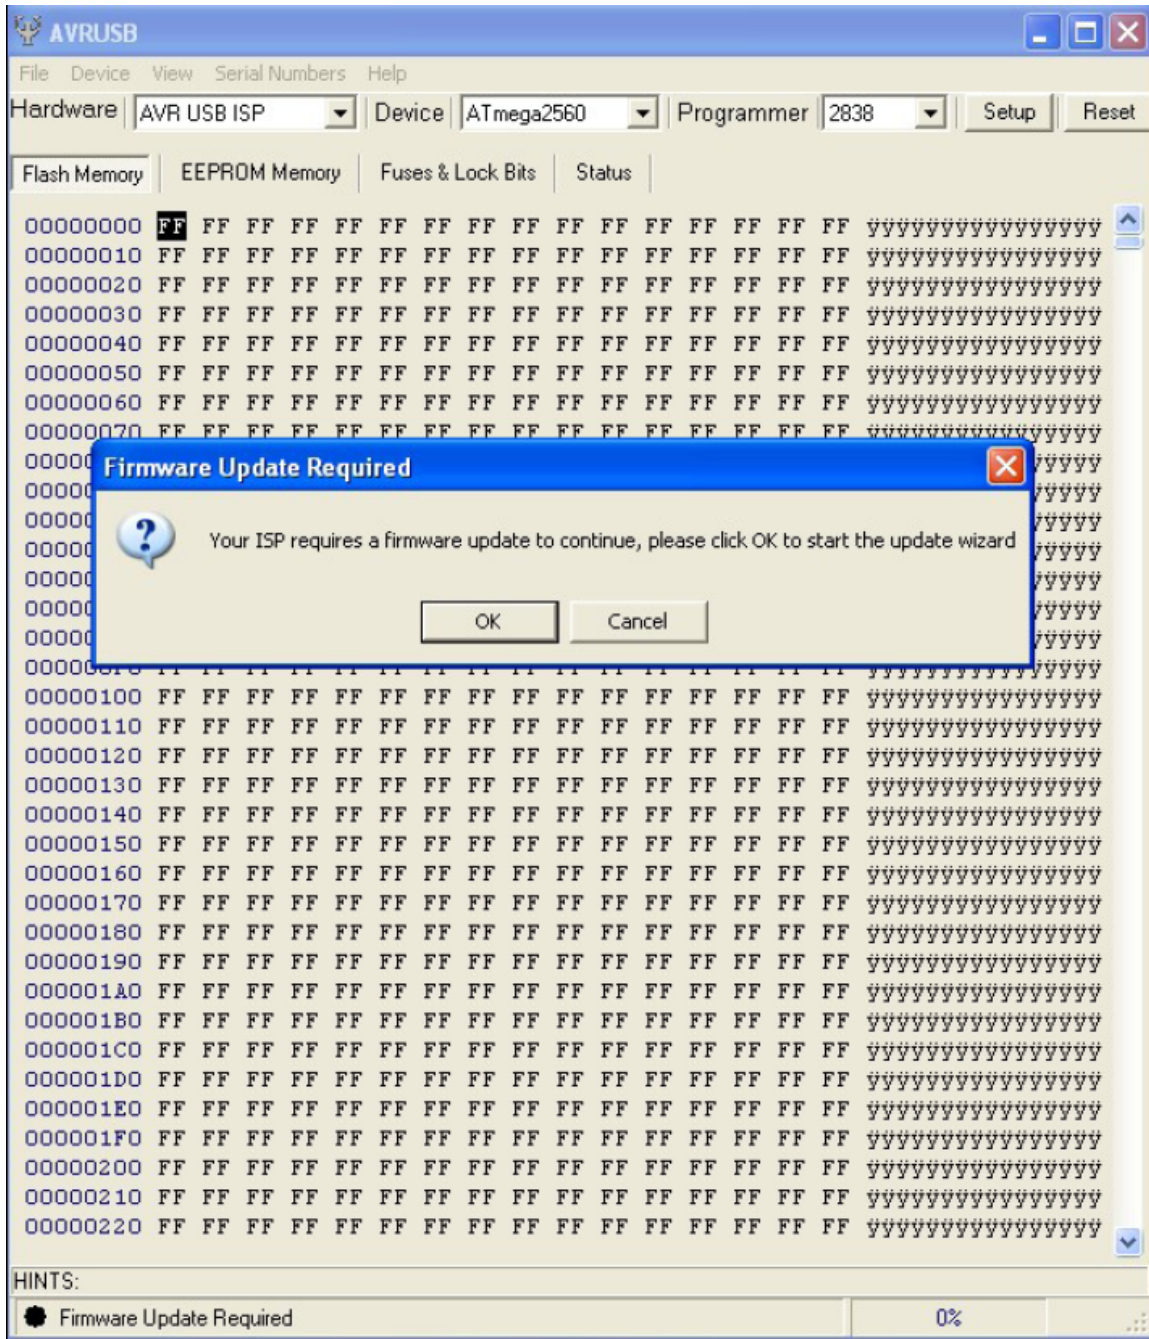

Figure 3
**IMPORTANT!** If the message in Figure 3 appears after connecting the AVR dongle interface cable to the PC, follow the update wizard to update the firmware. Note that this will require an internet connection.